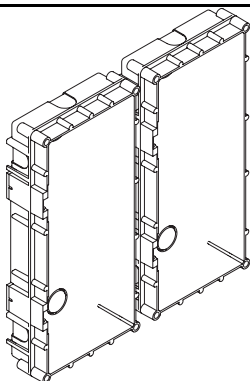

Fig.12
- Hook the spacers to first back box then hook the second back box to obtain the result shown on figure 12.